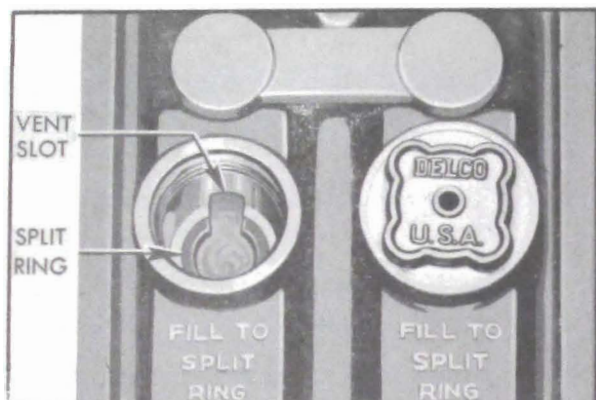

Figure 1-7—Battery Filler Well
12. **Battery.** Add distilled water to bring level to split ring at bottom of filler well. See figure 1-7. **WARNING:** Do not overfill. Clean top of battery; if wet with acid, neutralize with soda and wash clean.